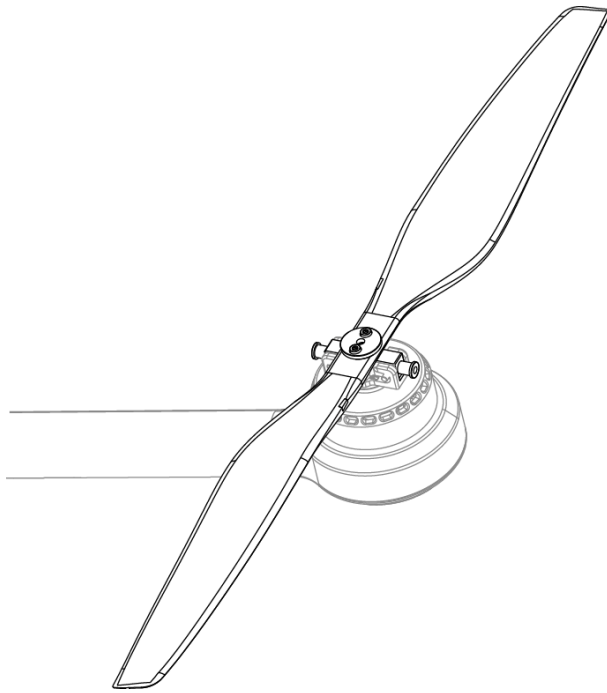

Figure 3-32
Step 2 Buckle the latch on the motor, as shown in Figure 3-32.